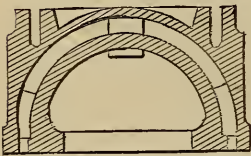

Fig. 80. Allen Balanced Valve, Pennsylvania Railroad, Class "O." Lengthwise Vertical Section to one side of Centre.
Allen or Trick valve, seen in figure 80. There is a step or shoulder on the valve-face, and a passage through the valve itself in such fashion that as the outside edge of the valve at either end commences to uncover the steam port at that end, the supplementary passage commences to receive steam at the other end, and passes it over to be discharged into the same port, beside the stream of steam coming by the outside edge of the valve.
A. In one of the most common types (the Richardson) there is a flat plate held out from the chest-cover parallel with the valve, the top of which latter is faced off plain; and packing-strips are held against the plate by springs. There is a hole from the exhaust-arch of the valve to the space included between the valve-back and the balance-plate, and bounded by the packing-strips; the object of this hole being to let any steam that might pass the packing-strips, escape through the exhaust. Figures 80, 81 and 82, show the balanced Allen valve in class "O" engines, Pennsylvania Railroad.